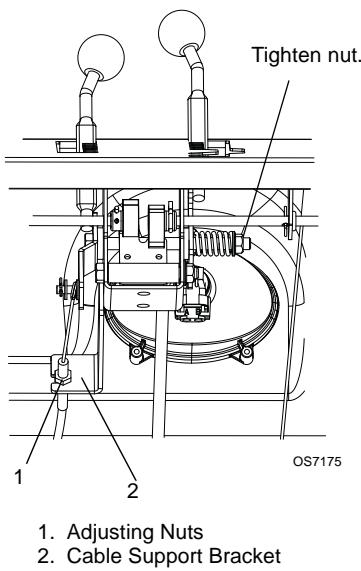

Figure 28
- Tighten nut beneath control panel to increase pressure on deflector control (Figure 28).
- Loosen adjusting nuts on cable support bracket underneath the dash panel (Figure 28).